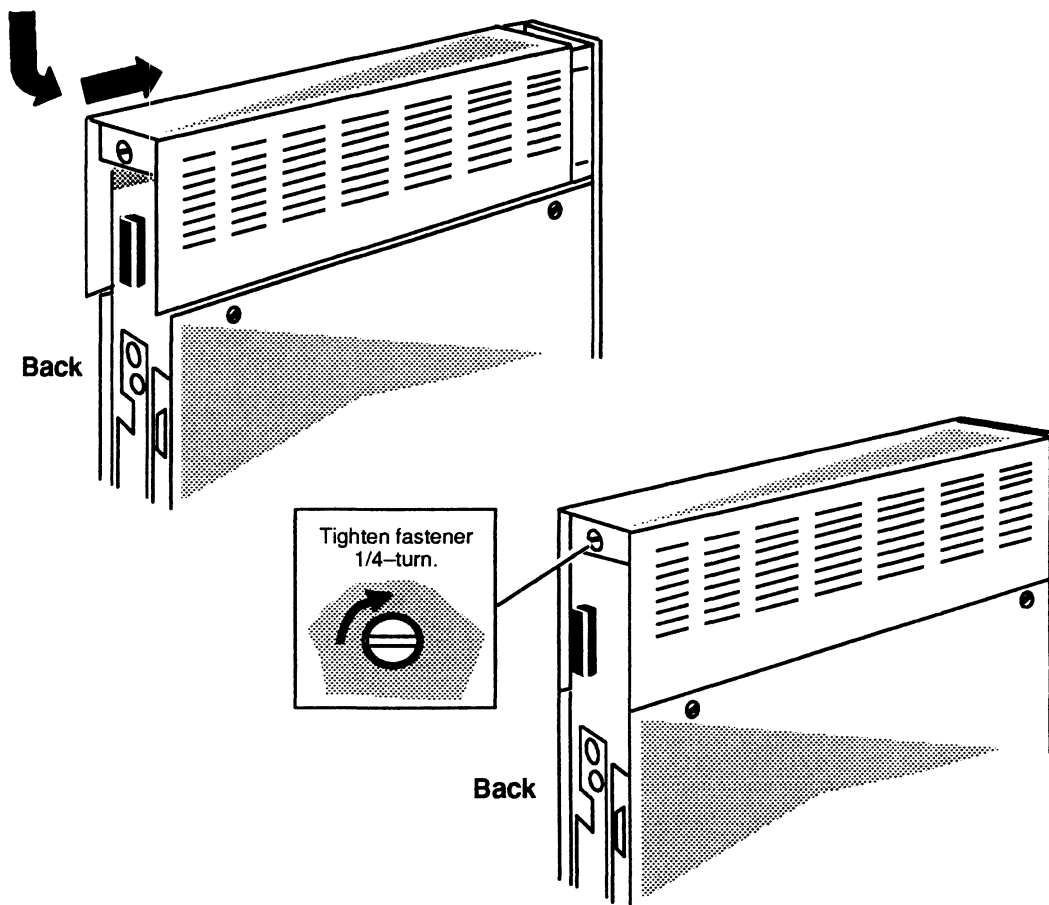

Figure 1-11 Installing the Top Cover
3. Push the top cover toward the front of the computer unit, as shown in Figure 1-11, until the front edge of the top cover is flush with the front edge of computer unit.
4. Using a coin or screwdriver, tighten the fastener by turning it one-quarter turn clockwise as shown in Figure 1-11.